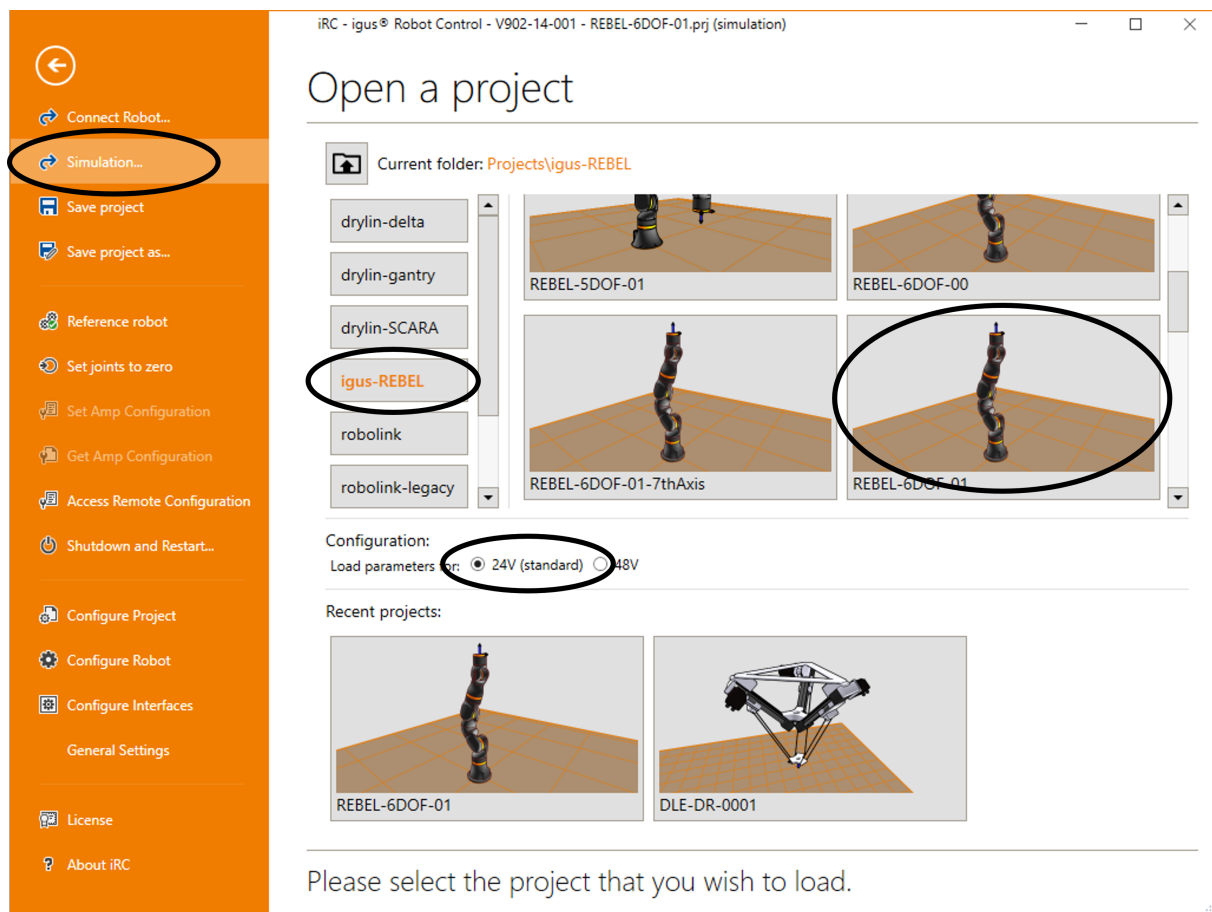

Figure 1: Choosing a project
2. Start the iRC software. At startup, you can select the project that applies to your robot. Please refer to the product number or product name, the project names are based on these (see Fig. 1).